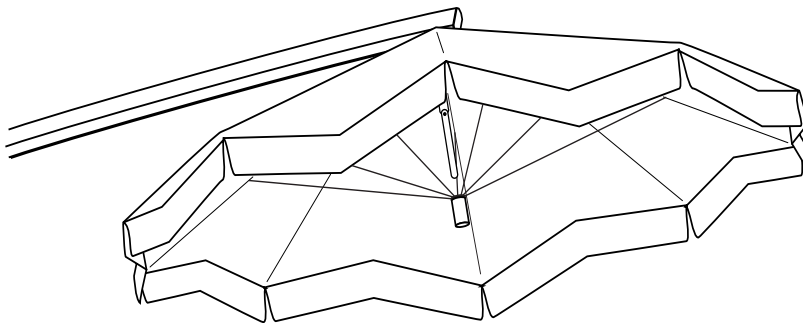
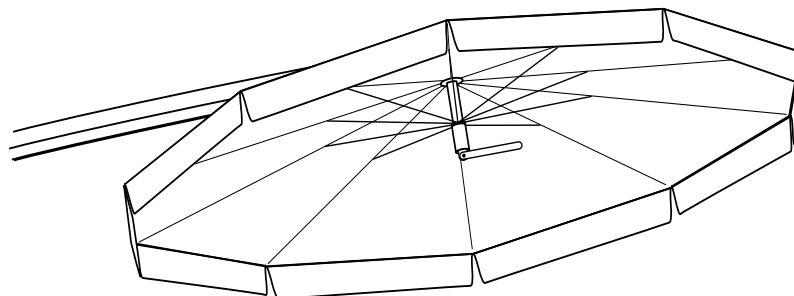

fig. 7
fig. 8
2. To open sunshade lift cover and spread the rib struts by pushing runner up. With the other hand insert locking lever and inner stem through runner (fig. 7) While depressing the runner handle pull until locking lever clicks into place and release handle to secure. Position the locking lever horizontally (fig. 8).